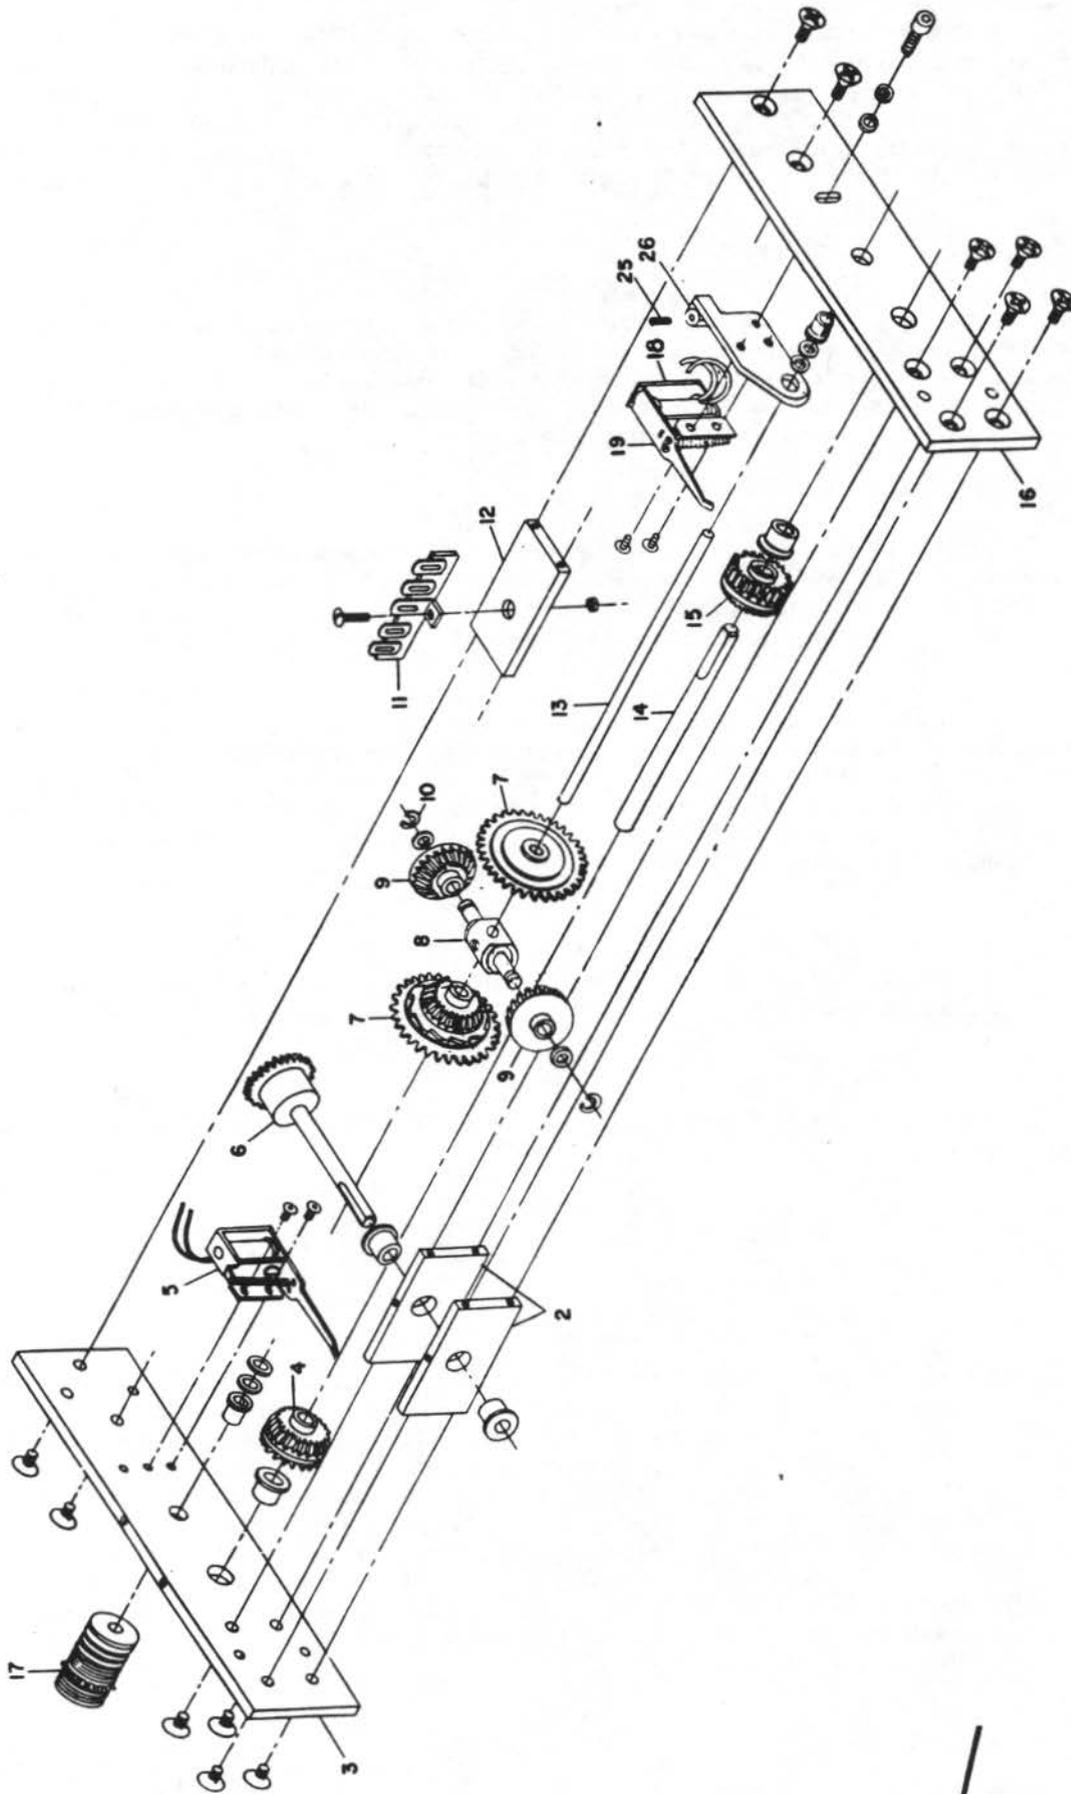

Figure 6. Capstan Drive, Exploded View
2.1 Motor and Capstan Drive (See Figure 6)